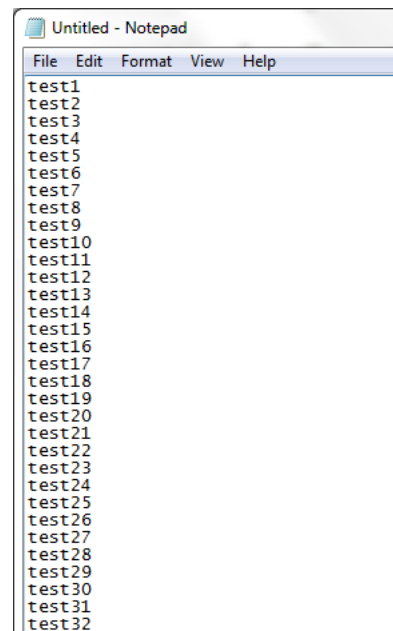

Figure 93 .txt file format (single row of names—no well numbers or row numbers).
- For a .txt file, a single column of sample names are used (**Figure 93**).